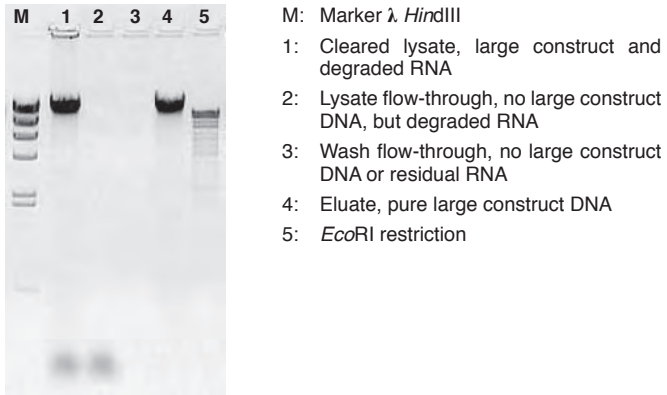

Figure 4: Exemplary analytical check of NucleoBond® Xtra BAC purification samples
The gel picture below (Figure 4) will help you to address the specific questions outlined in the following section more quickly and efficiently.
- Check large construct content in the cleared lysate (see Figure 4). Use colonies from fresh plates for inoculation and add selective antibiotic to plates and media.
- Too much cell mass was used. Refer to section 4.5–4.7 regarding recommended culture volumes and lysis buffer volumes. Check large construct content in the cleared lysate (see Figure 4).
- Check large construct content in the wash fractions (see Figure 4). Keep all buffers tightly closed. Check and adjust pH of Buffer EQU-BAC (pH 6.3) and ELU-BAC (pH 8.5) with HCl or NaOH if necessary.
- Check RNA content in the wash fractions (see Figure 4). Keep all buffers tightly closed. Check pH of Buffer EQU-BAC (pH 6.3) and WASH-BAC (pH 6.3) and adjust with HCl or NaOH if necessary.